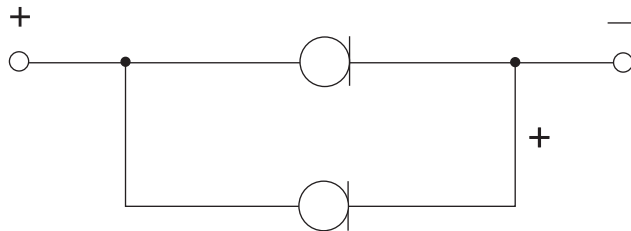

Figure 5. CLDs Connected in Parallel
**Parallel**—Increasing the current range may be accomplished by connecting CLDs in parallel (Figure 5). The resulting current is the sum of the individual currents. No special precautions are necessary.